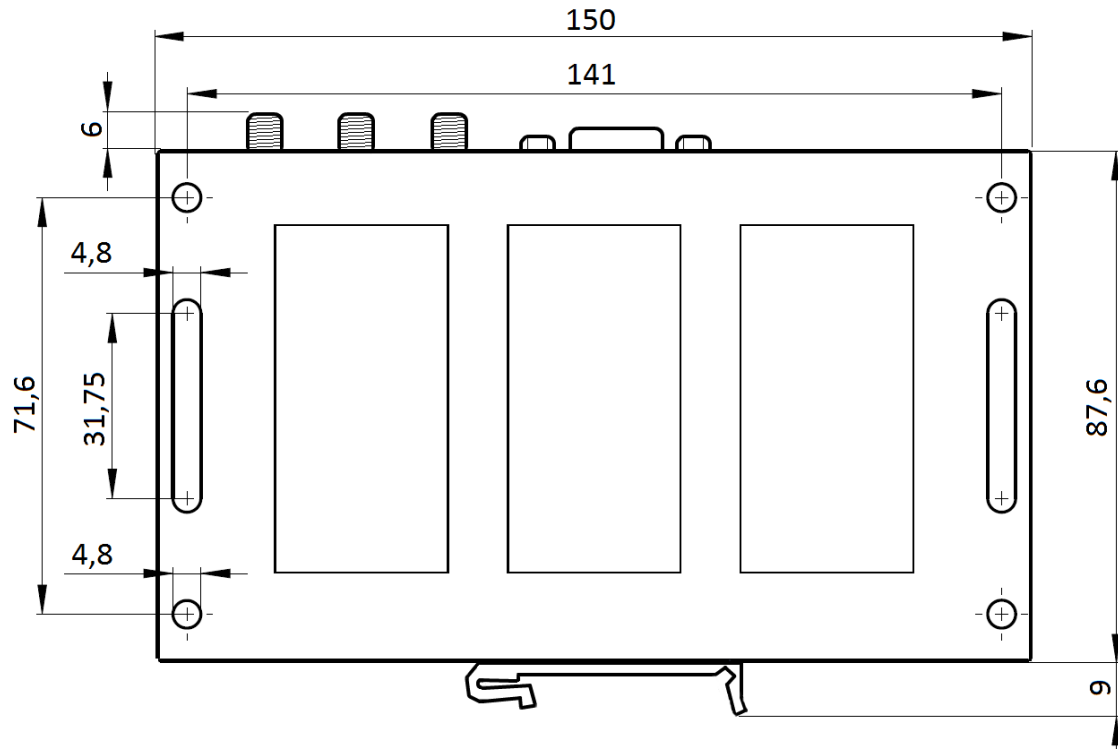

Figure 11: Bottom view
- mount the router on a wall using four holes in corners (Figure 11) and screws with diameter 4 mm,